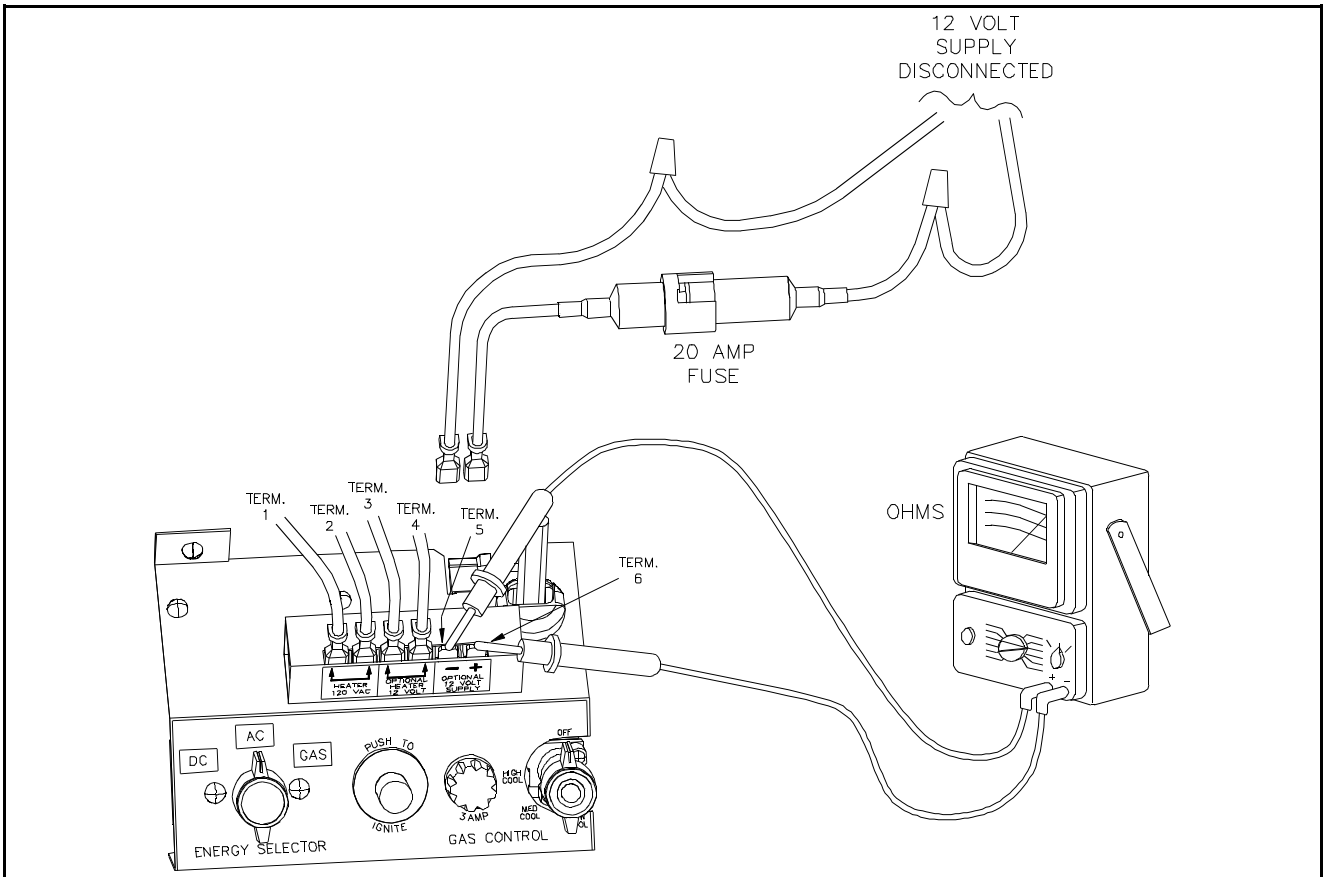

Figure 17 - Continuity Test - DC
Continuity Test: With the Selector switch still in the DC position and the DC Supply disconnected at Terminals 5 & 6, use an Ohmmeter to measure resistance between Terminals 5 & 6, as in Figure 17. Read the Ohmmeter and refer to TABLE 3 on page 12-16.
6. If the Continuity Test indicated in TABLE 3 measures an open, remove the heater leads at Terminals 3 & 4 and install a jumper across terminals 3 & 4 (See Figure 17 for location). Repeat the Continuity Check.